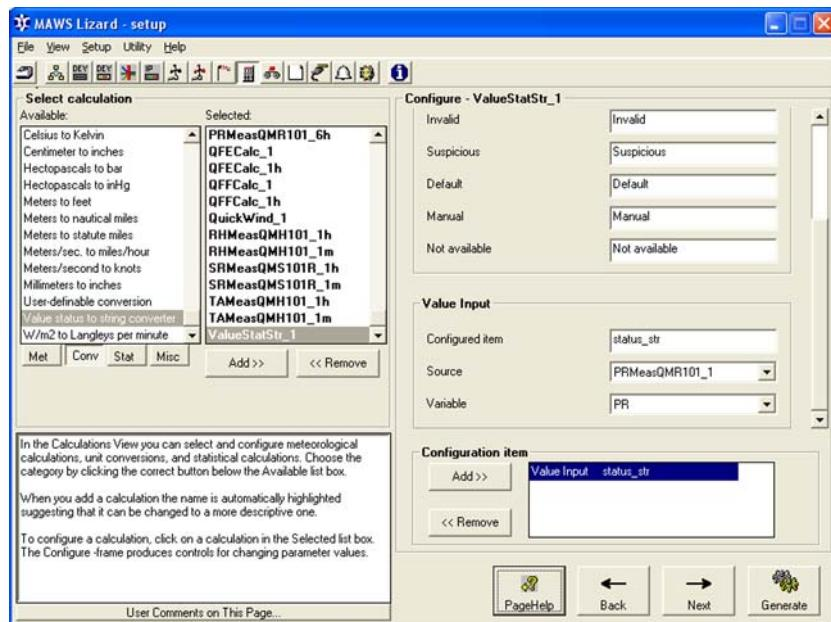

Figure 30 Calculations View: Configuring Status Strings (2/2)
4. Select the data item to which the status conversion applies by selecting a source and a variable in the **Value input** frame; see Figure 30 on page 82. If you want the same conversion to apply to other data items as well, click the **Add** button to add the rest of the data items.